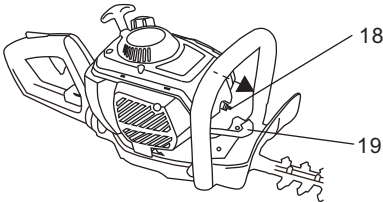

Fig.27
1. Inspect the spark plug (18) at least every 25 hours or prior to long-term storage over 30 days if the use has not been this high. Clean or replace with a new spark plug if necessary, refer to section “**TECHNICAL SPECIFICATIONS**”.
2. Unplug the spark plug connector (19) (Fig. 27).